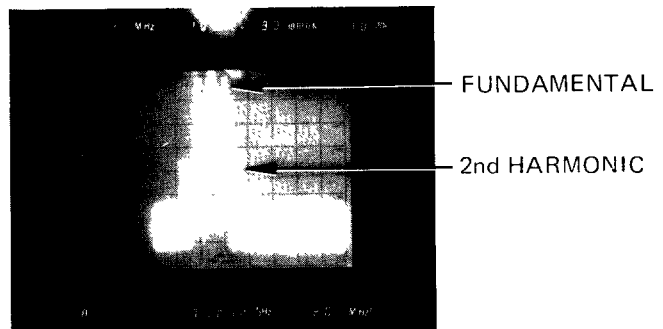

Figure 4-15. Fundamental and 2nd Harmonic Frequencies
3. On spectrum analyzer, adjust TUNING control to position the sweeper's fundamental frequency near the CENTER FREQUENCY graticule line; see Figure 4-15.